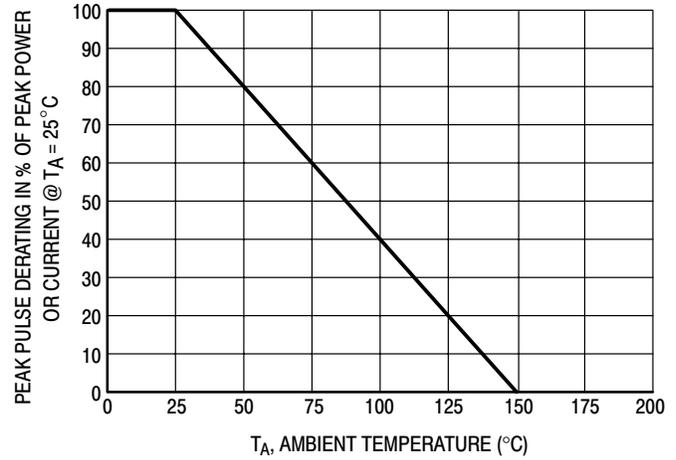
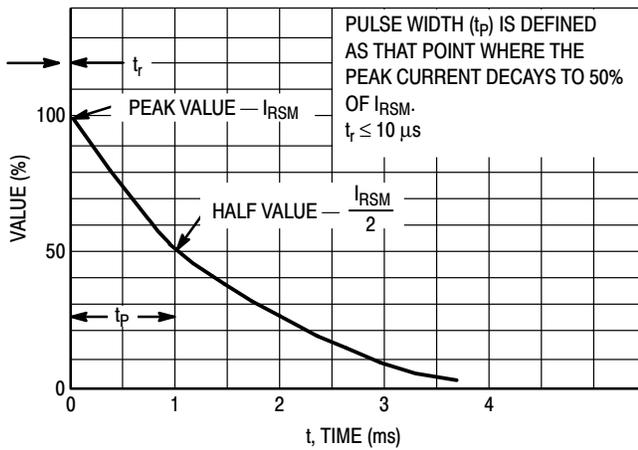
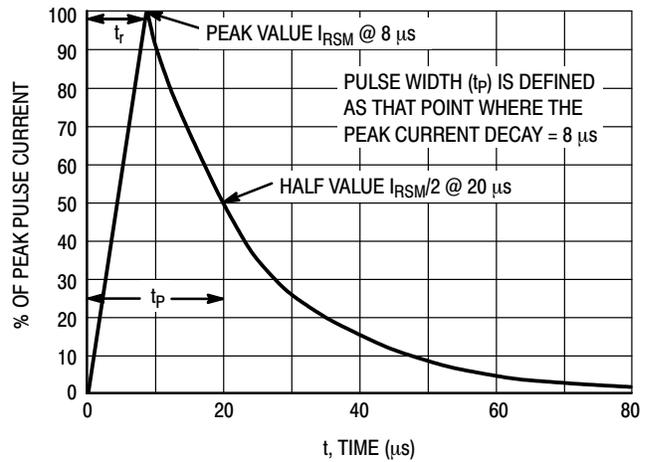

Figure 4. Pulse Derating Curve
Figure 5. 10 × 1000 µs Pulse Waveform
Figure 6. 8 × 20 µs Pulse Waveform
1. Non-repetitive current pulse per Figure 5 and derate above $T_A = 25^\circ\text{C}$ per Figure 4.
2. Non-repetitive current pulse per Figure 6 and derate above $T_A = 25^\circ\text{C}$ per Figure 4.
6. Surge current waveform per Figure 5 and derate per Figure 4.